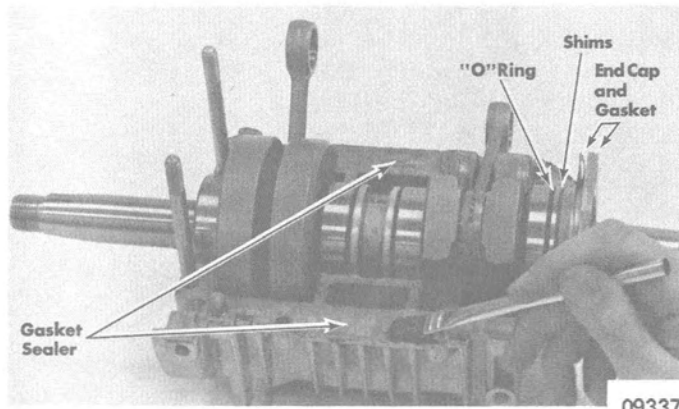

Figure 3. Applying Crankcase Sealer
8. Apply a **THIN** coat of Gasket Sealer (C-92-72592-1) to crankcase halves. (Figure 3)